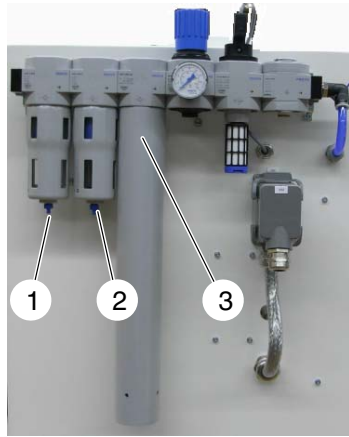

Fig. 5-7
Open the drain valve on the fine filter and the ultra fine filter (1 and 2, Fig. 5-7). Also refer to *Membrane Compressed Air Dyer: Condensate Disposal*.
3. Unscrew the air dryer (3, Fig. 5-7) and replace completely.